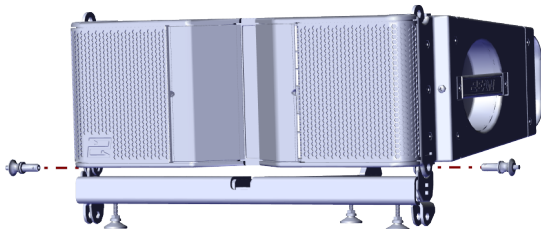
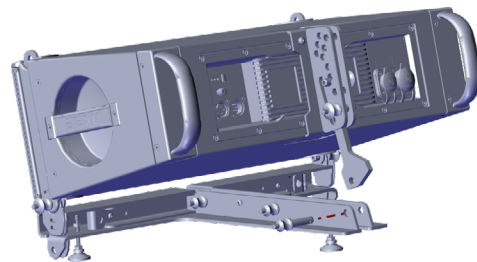

Figure 11a
Figure 11b
2. Once flybar frame is level on surface, add first NT206L module by placing module on frame and pinning both front locations with pins on cabinet (Figure 11a). Swing rear rigging on cabinet down and secure to flybar using pin on the frame (Figure 11b). Using pin on NT206L cabinet, secure by pinning angle lock.